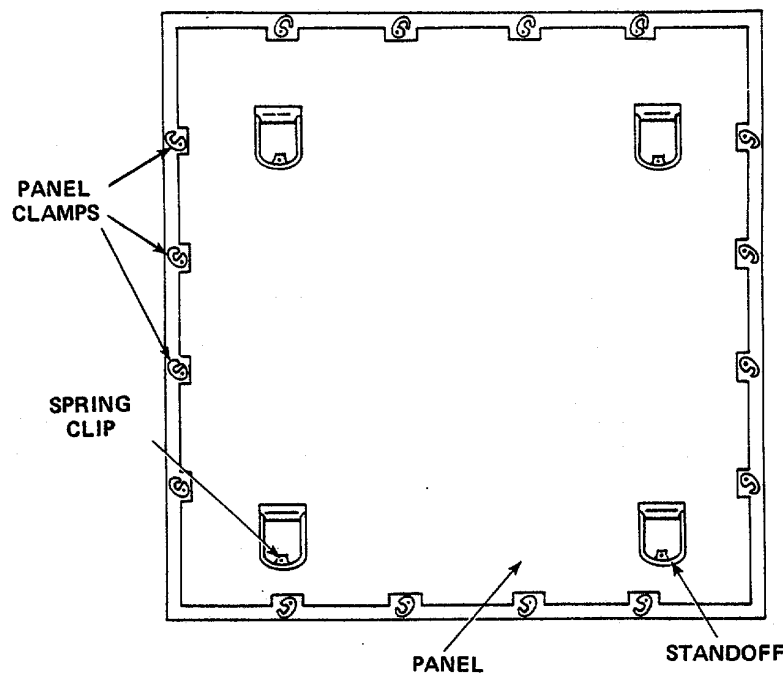

Figure 2-1. Side Panel and Clamps
- (1) Station one person inside the crypto facility and one on the roof above panel.
- (2) Loosen tiedown slings (when required).
- (3) From inside the shelter, loosen clamps around edge of panel by loosening jam nut on each clamp (figure 2-1).
- (4) Rotate all panel clamps 90 degrees to release panel from shelter; retighten screw at each clamp to hold clamps in released position. Have person on roof hold panel in position.
- (5) From inside the shelter, push panel outward allowing person on roof to grasp panel. Use standoffs on panel as handholds to lower panel to ground.
- (6) Repeat steps (1) through (5) above to remove side panel on message facility.
- (7) Store the removed panels off the ground in a protected area, using any dunnage that is available to reduce deterioration by the elements.